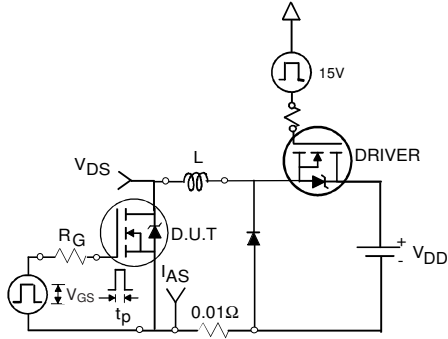

Fig 12a. Unclamped Inductive Test Circuit
| I _{AR} | Avalanche Current ④ | See Fig.12a, 12b, 15, 16 | A |
3. Equation below based on circuit and waveforms shown in Figures 12a, 12b.